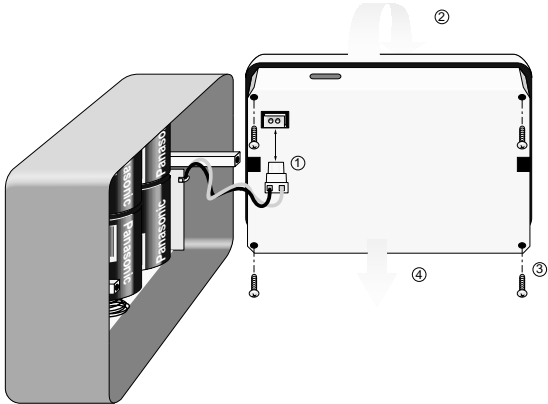

FIGURE 3. Removing the Back Cover of the Faceplate
- 6. Disconnect the Molex connector to separate the base from the faceplate (① on Figure 3).
- 7. Rotate the faceplate onto its face (② on Figure 3).
- 8. Use the Phillips screwdriver to remove the four screws that hold the back cover to the faceplate and printed circuit boards (③ on Figure 3). The screws are attached to spacers that may move once the screws have been removed... so if something rattles, don't panic (yet).
- 9. Remove the back cover of the faceplate (④ on Figure 3).